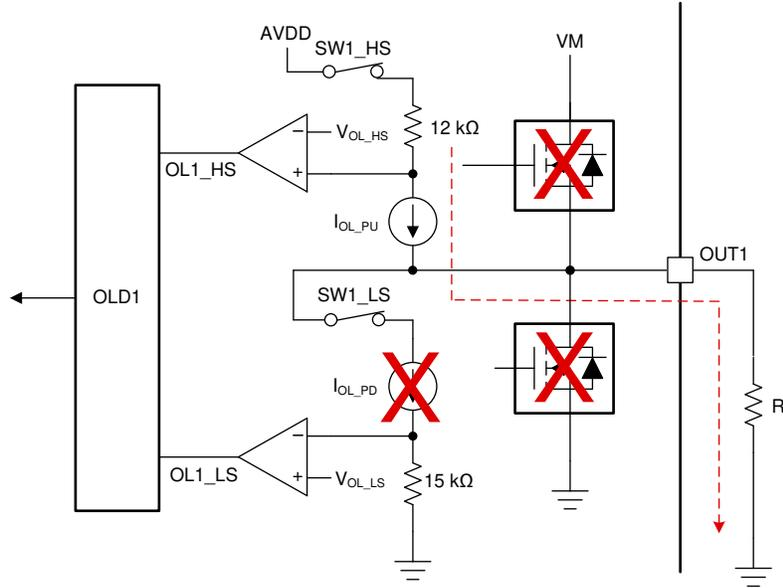
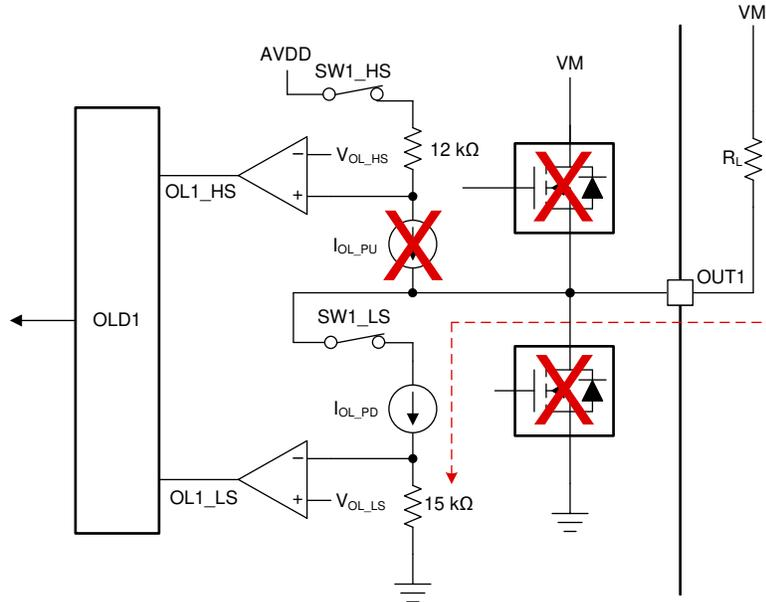

Figure 8-18. Open Load Detect Circuit for Load Connected to Ground (GND)
Figure 8-20. Open Load Detect Circuit for Load Connected to Supply Voltage (VM)
OLD circuit consists of four main components i.e. current source (and current sink), series sequencing switches (sequenced by the digital core), resistors and comparators. For ground (GND) connected load, the current source ($I_{\text{OL_PU}}$) pulls up the OUTx node to internal regulator voltage (AVDD) and allows the current to flow from internal regulator voltage (AVDD) to ground via the connected load as shown in Figure 8-18. Moreover, for the supply (VM) connected load, the current sink ($I_{\text{OL_PD}}$) pulls down the current from supply voltage (VM) to ground via the connected load as shown in Figure 8-20. The resistance of the load connected at the OUTx terminal will change the source / sink current and indirectly the voltage drop across two resistors (12-k Ω and 15-k Ω). This voltage drop across resistors is compared with the reference voltage ($V_{\text{OL_HS}}$ and $V_{\text{OL_LS}}$) by the internal comparators to give the output as OL1_HS and OL1_LS. This comparator output is fed to the open load digital circuit to determine the open load condition.
Figure 8-18 shows the ground connected load with internal OLD circuit. When high-side open load sequence is activated (i.e. SW1_HS is on and SW1_LS is off), the current source ($I_{\text{OL_PU}}$) pulls up the OUT1 node to internal regulator voltage (AVDD) and current flows from internal regulator voltage (AVDD) to ground via the connected load (R_L). Now, depending upon if the load is present or not, there can be three cases as follows:
8.2.3.3 OLD for Supply (VM) Connected Load
Figure 8-20 shows the supply (VM) connected load with internal OLD circuit. When low-side open load sequence is activated (i.e. SW1_HS is off and SW1_LS is on), the current sink (I_{OL_PD}) pulls down the OUT1 node to supply voltage (V_{VM}) and current flows from supply (VM) to ground via the connected load (R_L). Now, depending upon if the load is present or not, there can be three cases as follows: